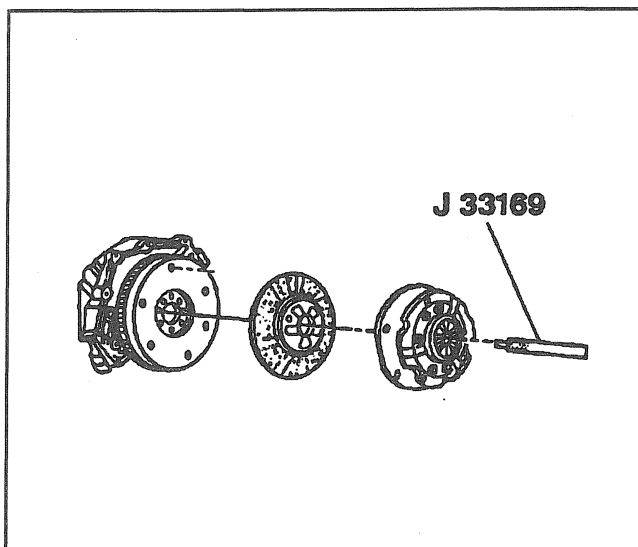

Figure 7—Clutch Alignment Tool
↔ Remove or Disconnect (Figures 7 and 8)
- Install J 33169 clutch alignment tool or a used clutch drive gear to support the clutch (Figure 7).
↔ Install or Connect (Figures 7 and 8)
2. Clutch cover to flywheel with washers and bolts (Figures 7 and 8).